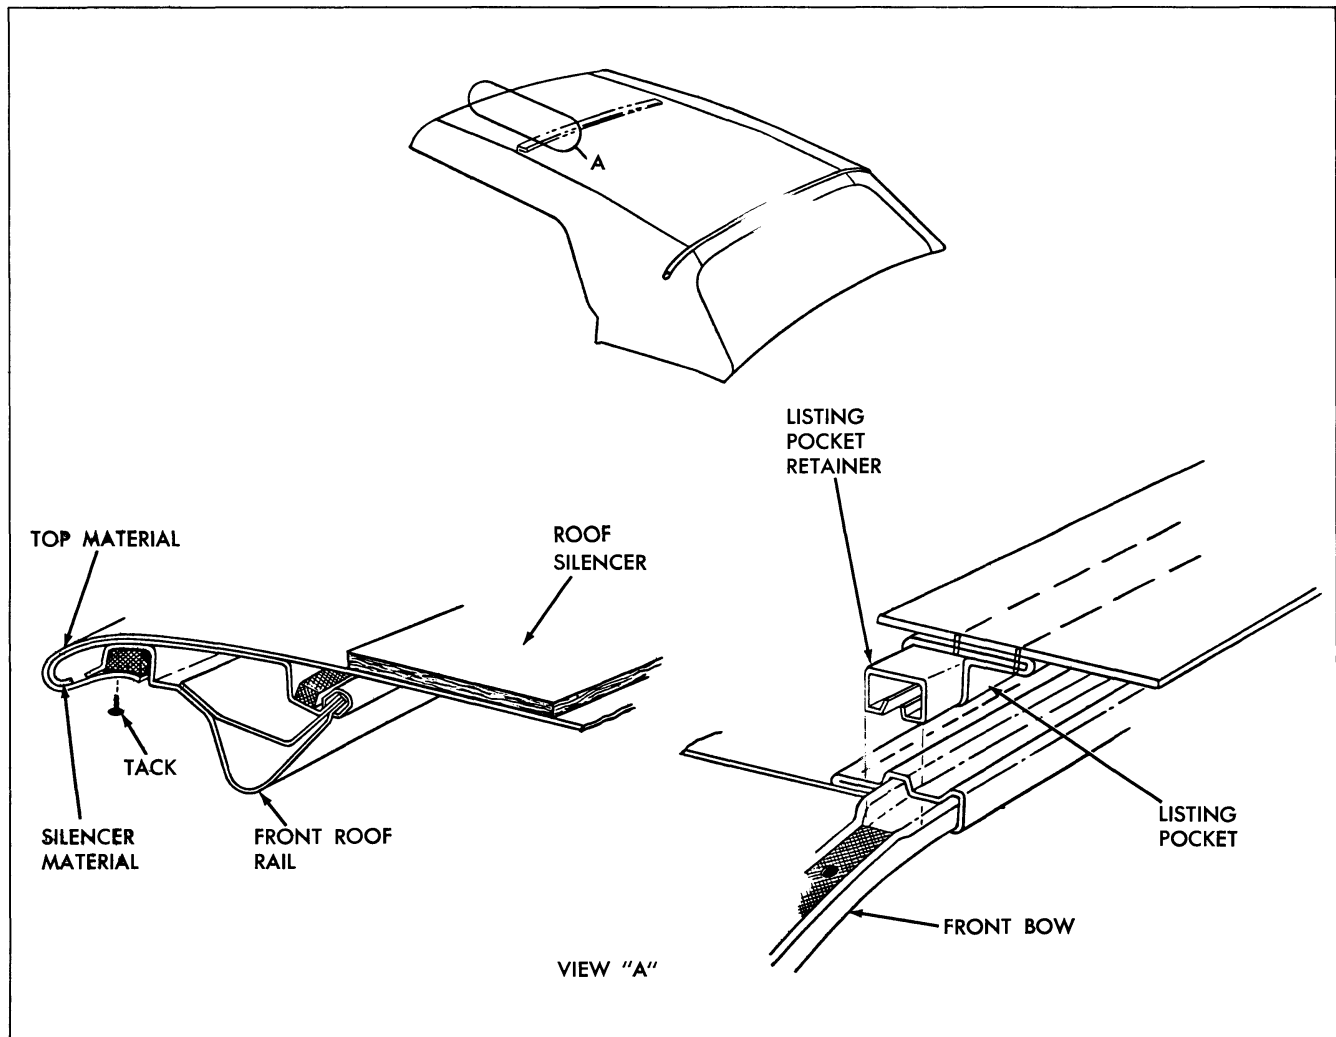

Fig. 21-43 Roof Silencer
3. Detach top material and roof silencer material from front roof rail (Fig. 21-43).
5. At underside of front bow, remove screws securing listing pocket to bow. Push top material upward sufficiently to disengage listing pocket and listing pocket retainer from front bow (Fig. 21-43).
11. Center listing pocket retainer in listing pocket; then install retainer into front bow (Fig. 21-43). Secure retainer to front bow using previously removed attaching screws.